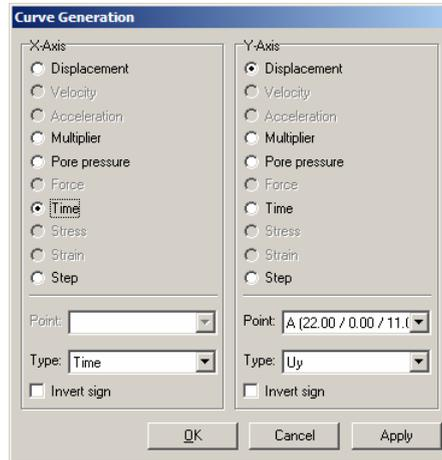

Figure 5.8 Setting up the time-displacement curve
- In the Curve generation window (Figure 5.8), select for the *x-axis* the *Time* option.